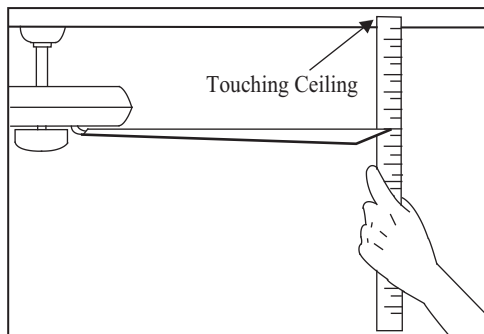

Figure 14
2. Most fan wobble problems are caused when blade levels are unequal. Check this level by selecting a point on the ceiling above the tip of one of the blades. Measure from a point on the center of each blade to the point on the ceiling. Measure this distance as shown in Figure 14. Rotate the fan until the next blade is positioned for measurement. Repeat for each blade. Measurements deviation should be within  $1/8"$ . Run the fan for 10 Minutes.